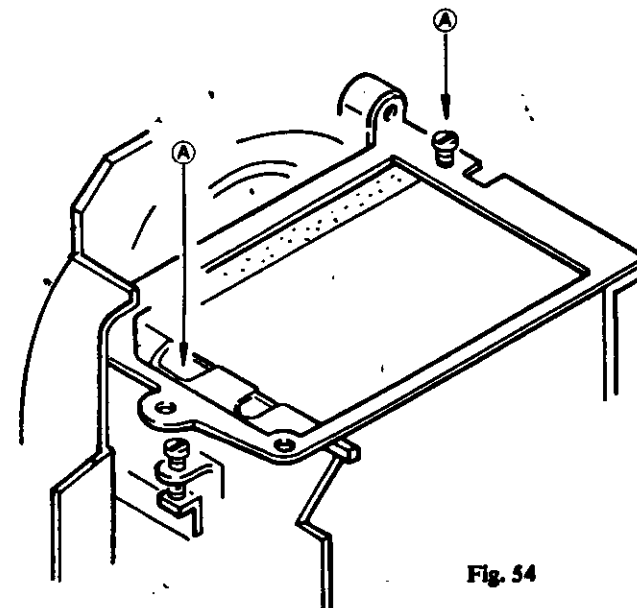

Fig. 54
- 3) Adjust the 45° angle of the mirror with SCREWS (A) shown in Fig. 54.
- 1) Absolutely refrain from turning the SCREWS (A) of Fig. 54, unless the mirror or the mirror box has been exchanged.